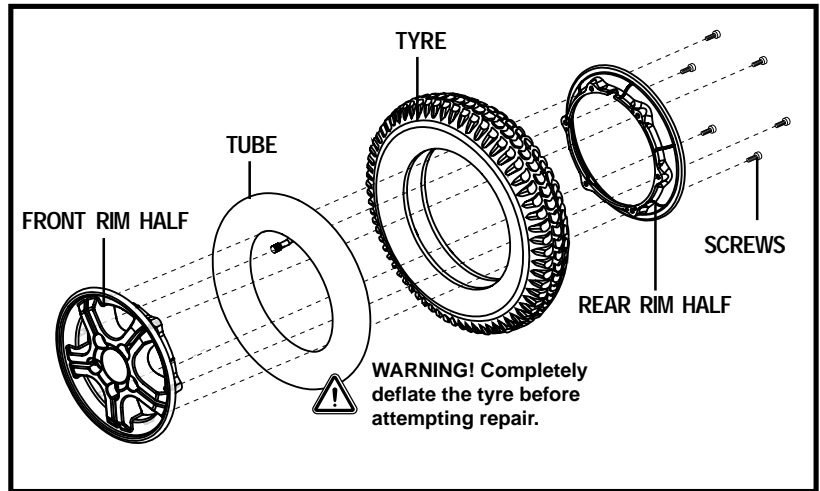

Figure 28. Quantum 6000 Drive Wheel Disassembled
6. Remove the screws and separate the front and rear rim. See figure 28.
10. Reinstall the five (5) lug nuts onto the wheel hub and tighten.